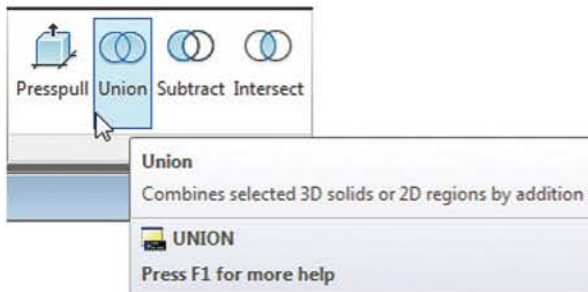

Fig. 9.11 Selecting the Union tool from the Home/Edit panel
3. Drawing 2 – call the **Union** tool from the **Home/Edit** panel (Fig. 9.11). The command sequence shows: